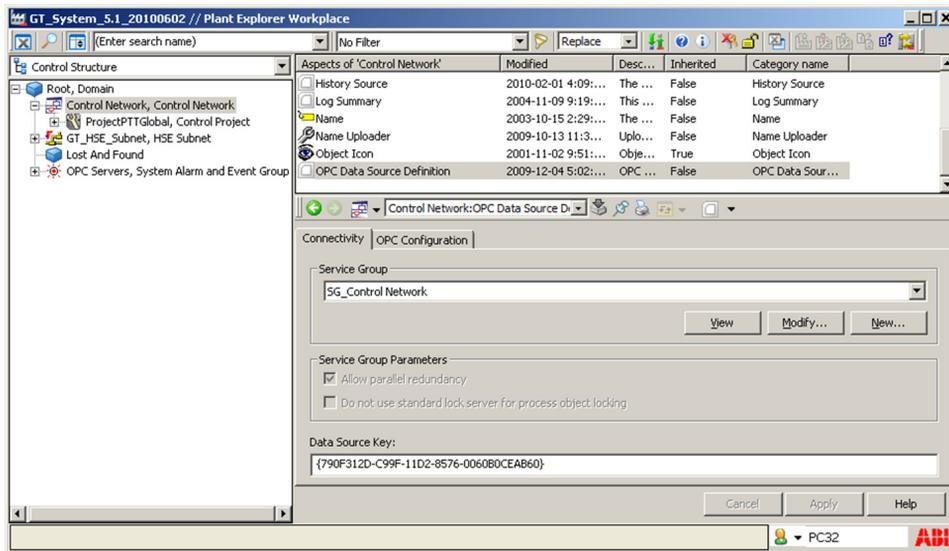

Figure 25. Data Source Definition Aspect
5. Select the **Connectivity** tab in the Preview Area as shown in Figure 25.
1. Go to the Data Source Definition aspect as shown in Figure 25.